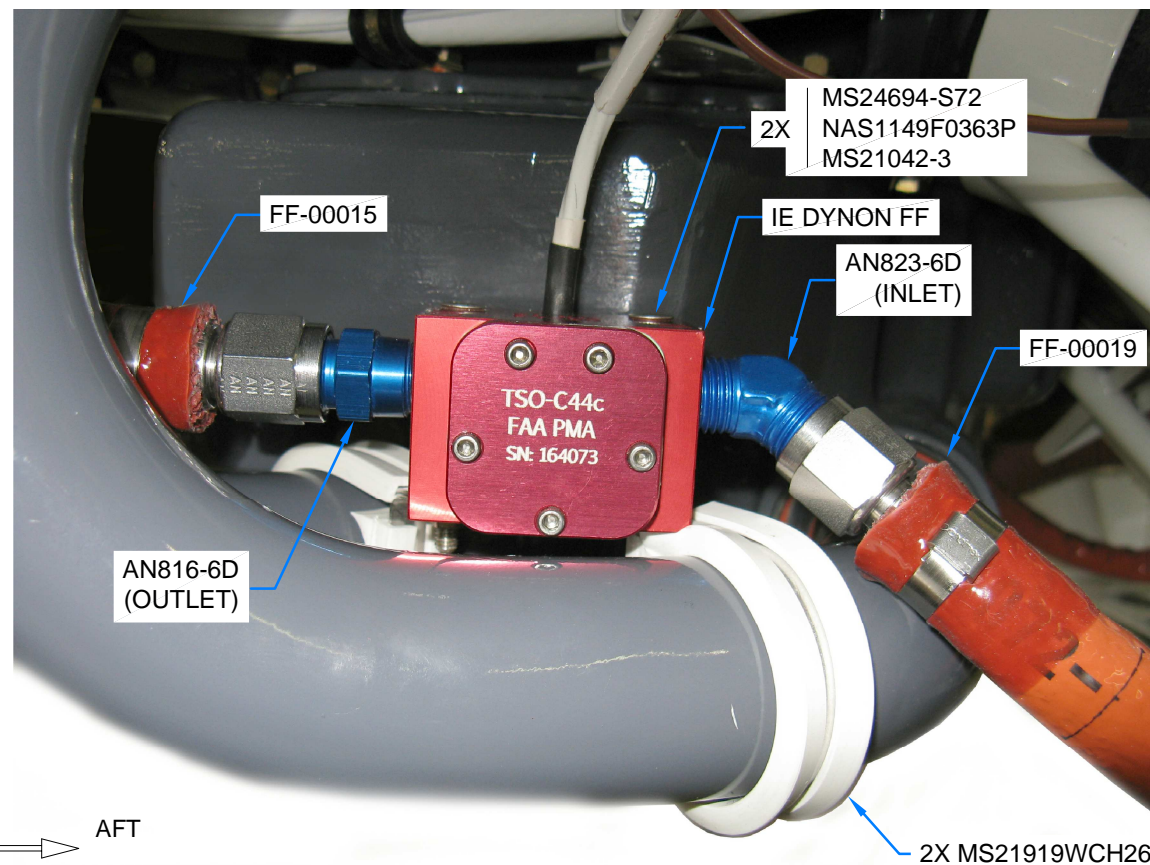

FIGURE 1: FUEL FLOW TRANSDUCER INSTALLATION
Step 2: Orient and install the IE DYNON FF Fuel Flow Transducer and fittings as shown in Figure 1. See Figure 2 or Figure 3 for the clocking of the inlet fluid fitting. For more information on installing fluid fittings, see Section 5.27.